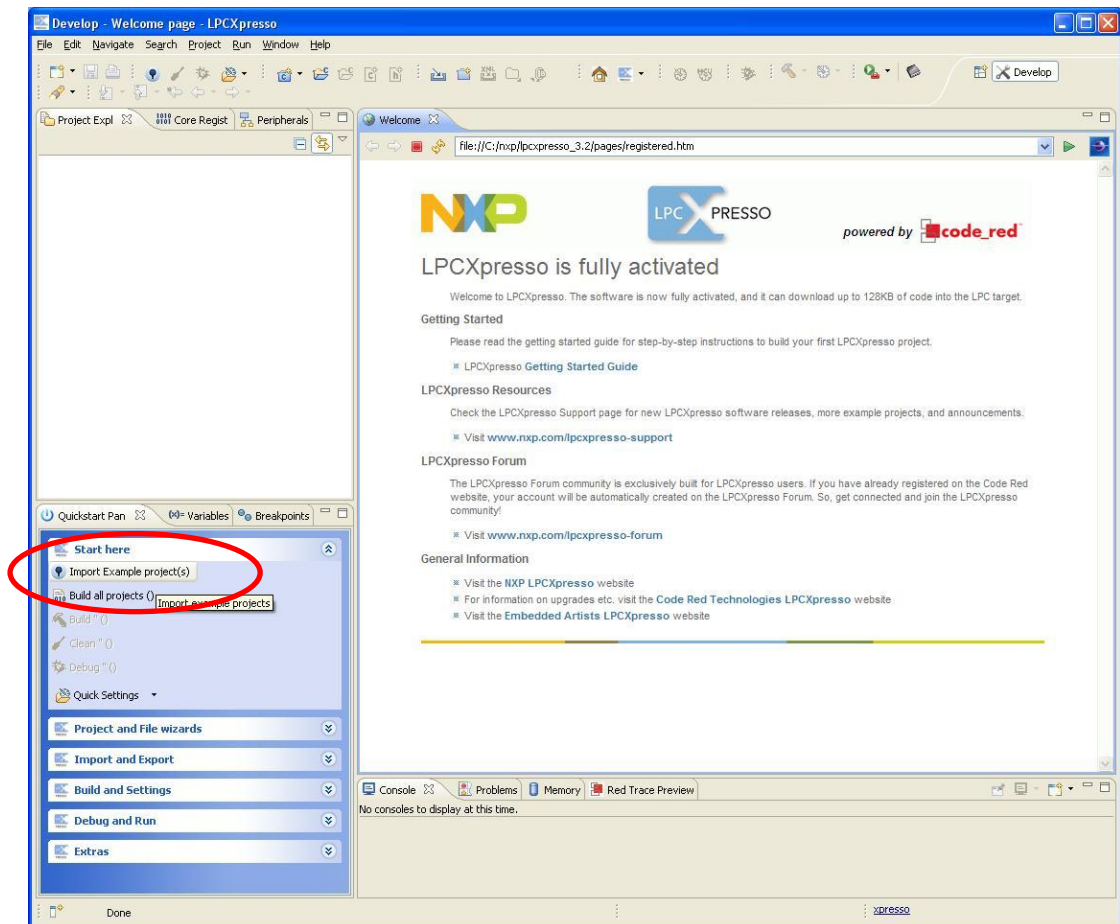

Figure 11 – Import project
3. Press the "Import Example Projects" button from the Quickstart panel, see Figure 11.